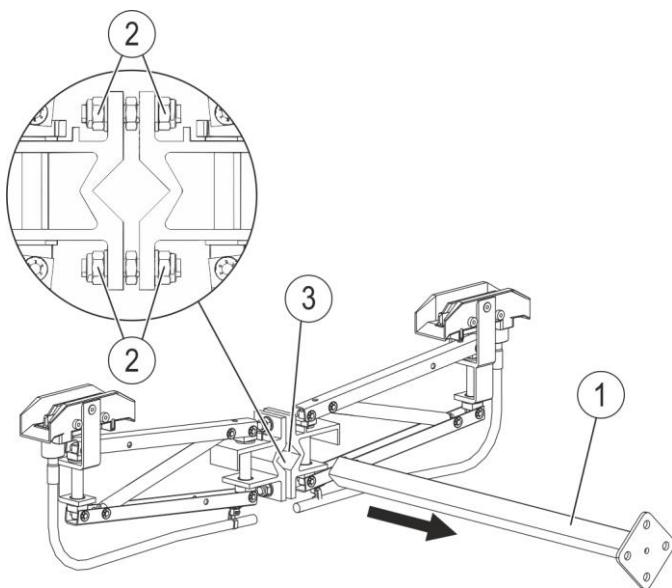

Fig. 122: Mount the towing arm
- Tension the towing arm (Pos. 1) in the middle support (square) (Pos. 3) of the current collector. The outer nuts M8 (Pos. 2) at the same time, gradually tighten alternately with an open-end wrench (see Fig. 122). Observe the tolerances and instructions provided above.